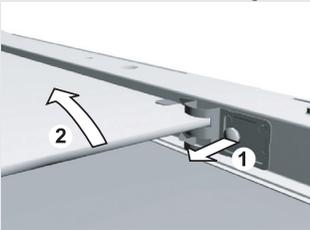

Figure 2
- Interior glass (only in some models) is removed by first undoing the screws on the glass supports and then by lifting it (Figure 2). Remove the supports before cleaning the glass pane.